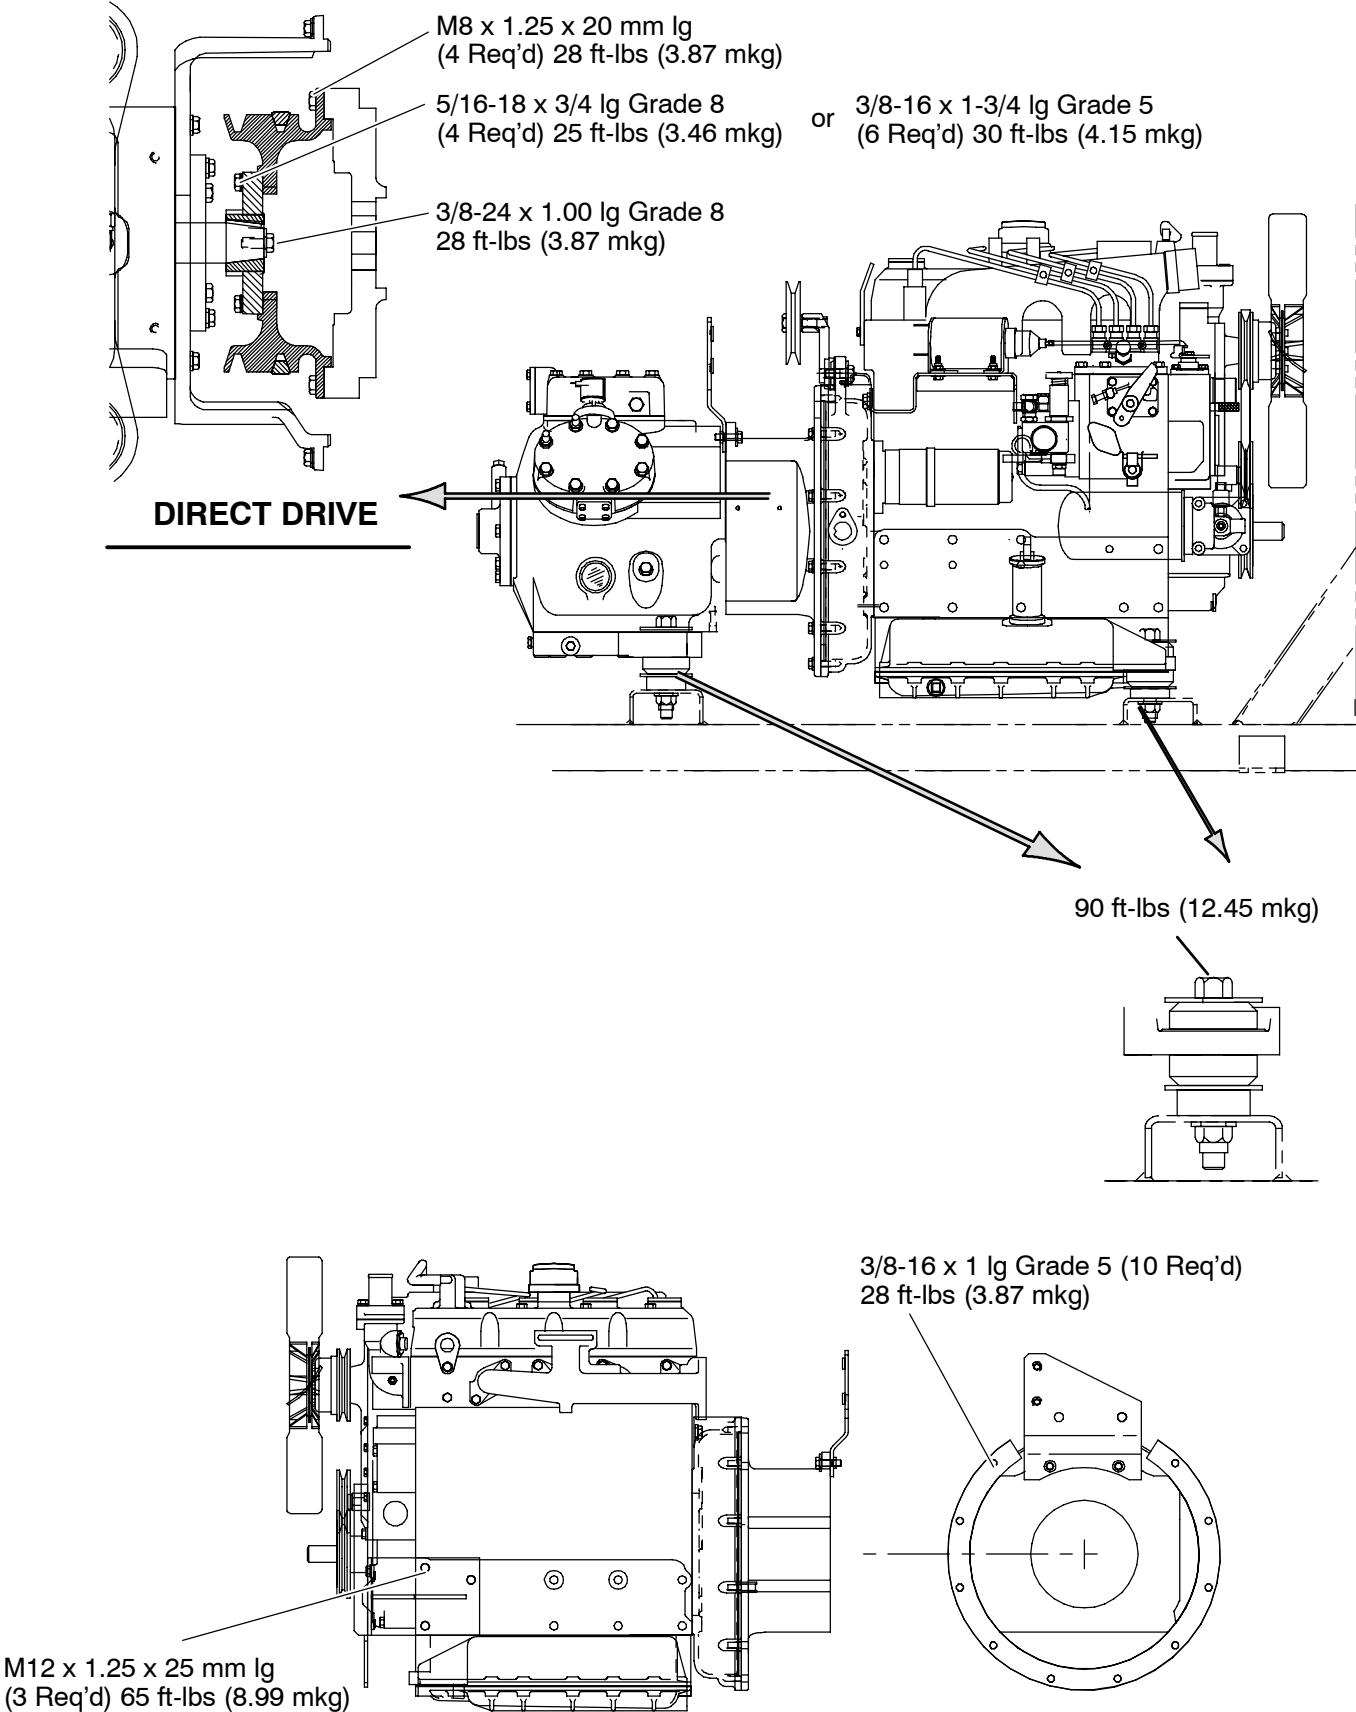

Figure 8-26. Unidrive Torque Requirements
8.31 Unidrive Torque Requirements (See Figure 8-26)